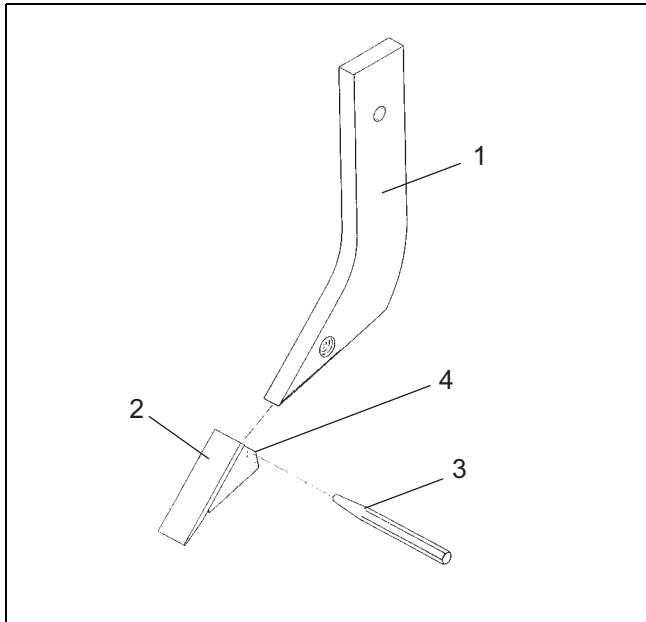

Figure 7. Scarifier Point Replacement
1. Remove scarifier shank (1) from the scarifier bar.
2. Remove the worn tooth by driving a chisel between the shank (1) and tooth (2) .
3. Install replacement tooth and use a punch (3) to bend the locking tab (4) into the retaining hole on both sides of the shank (see Figure 7).
4. Reinstall the shank (1) in the scarifier bar.